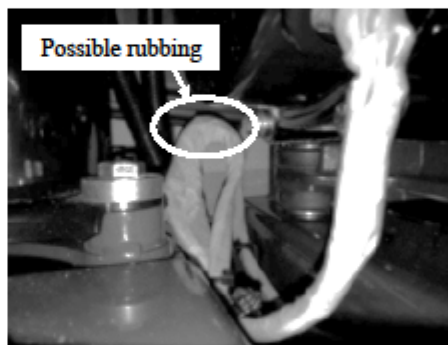

Figure 2
2. Inspect generator high voltage wiring harness for rubbing against generator (Figure 2).